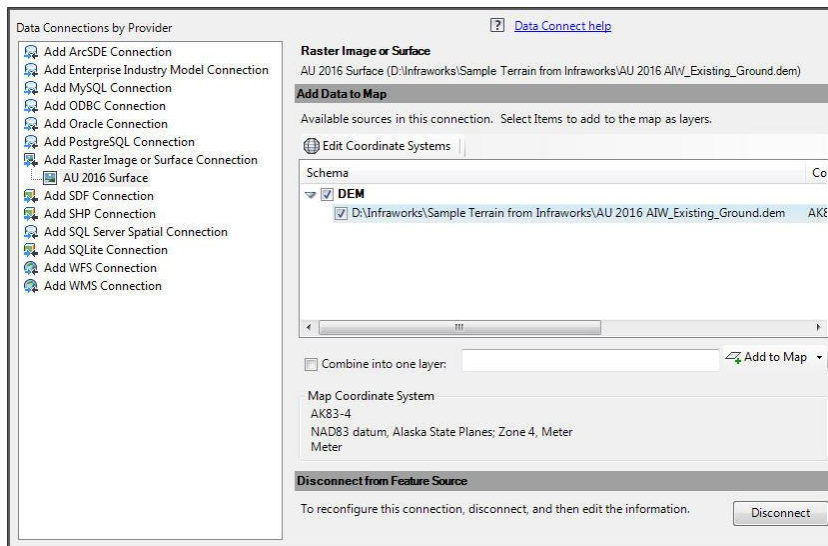

Figure 31: Data Connect Dialog Box
- Add Raster Image or Surface Connection (Figure 31)